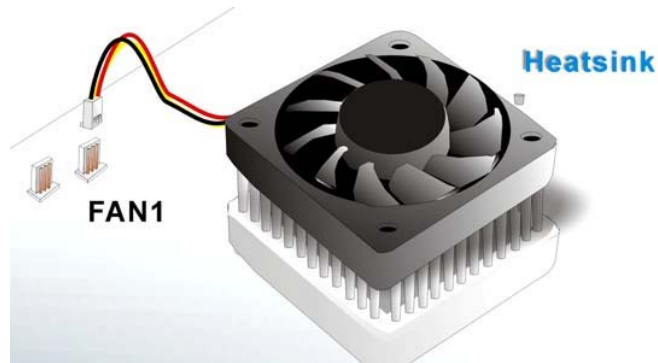

Figure 4-5: Connect the cooling fan cable
- Step 4:** **Connect the fan cable.** Connect the cooling kit fan cable to the FAN1 connector on the motherboard. Carefully route the cable and avoid heat generating chips and fan blades. (See **Figure 4-5**)